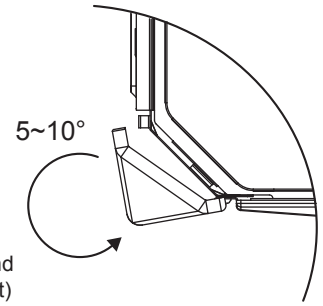
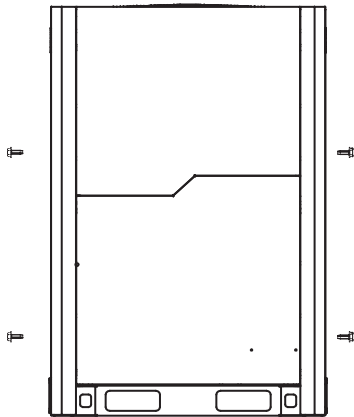
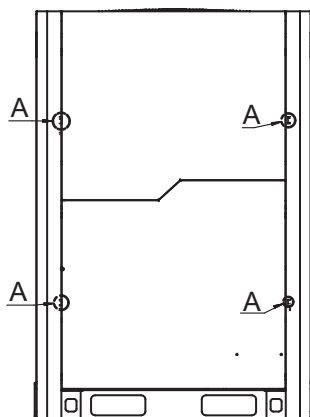

Fig.4-17
Fig.4-15
Fig.4-16
1. Dismantle the front left and right posts: Remove the four screws from the left and right posts (Fig 4-15). Then rotate the posts, and lift them by about 2 mm ( Fig 4-16 and Fig 4-17) to remove them.